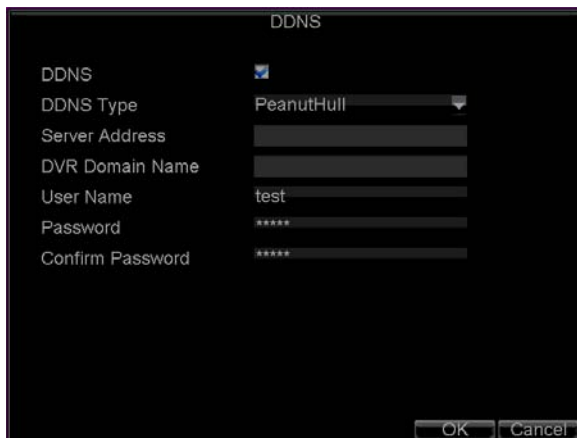

Figure 7. DDNS Settings
- **PeanutHull:** Enter **User Name** and **Password** obtained from the PeanutHull website (Figure 7).